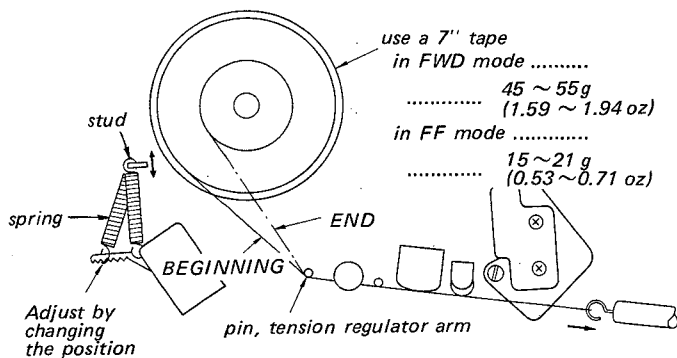

Fig. 8-6 Tension regulator back-tension adjustment
- (1) Loosen the two screws (A) and adjust by positioning the shut-off lever holding plate ass'y so that the shut-off mechanism is locked when the clearance between the shut-off arm and the head deck is 7 mm ( $\frac{9}{32}$ "'), and the shut-off mechanism is released completely when it is 1 mm ( $\frac{3}{64}$ "').
- (2) Adjust by changing the hooking position of the spring to obtain the specified values on the spring scale at the beginning and the end of the tape as shown in Fig. 8-6. If it is not obtained the specified values, adjust by bending the stud or perform the tension regulator adjustment.